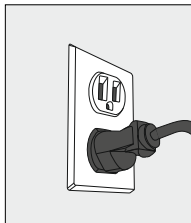

Figure 4
3. Ensure that the available power supply matches the cooler's voltage specifications indicated on the nameplate label (located at the rear of unit). Plug power supply cord into receptacle (Figure 4).Please ensure that cooler is set up so as access to the power outlet and plug is unobstructed.